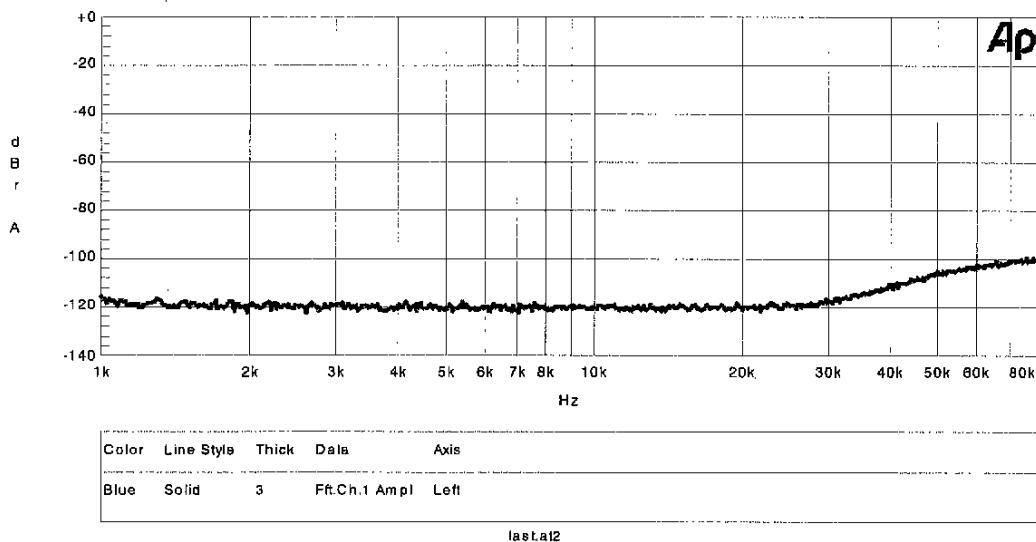

Fig6 : FFT Plot(Out-of-band Noise, Input="0" data)
- Out-of-band Noise (input "0" data, Fig6),